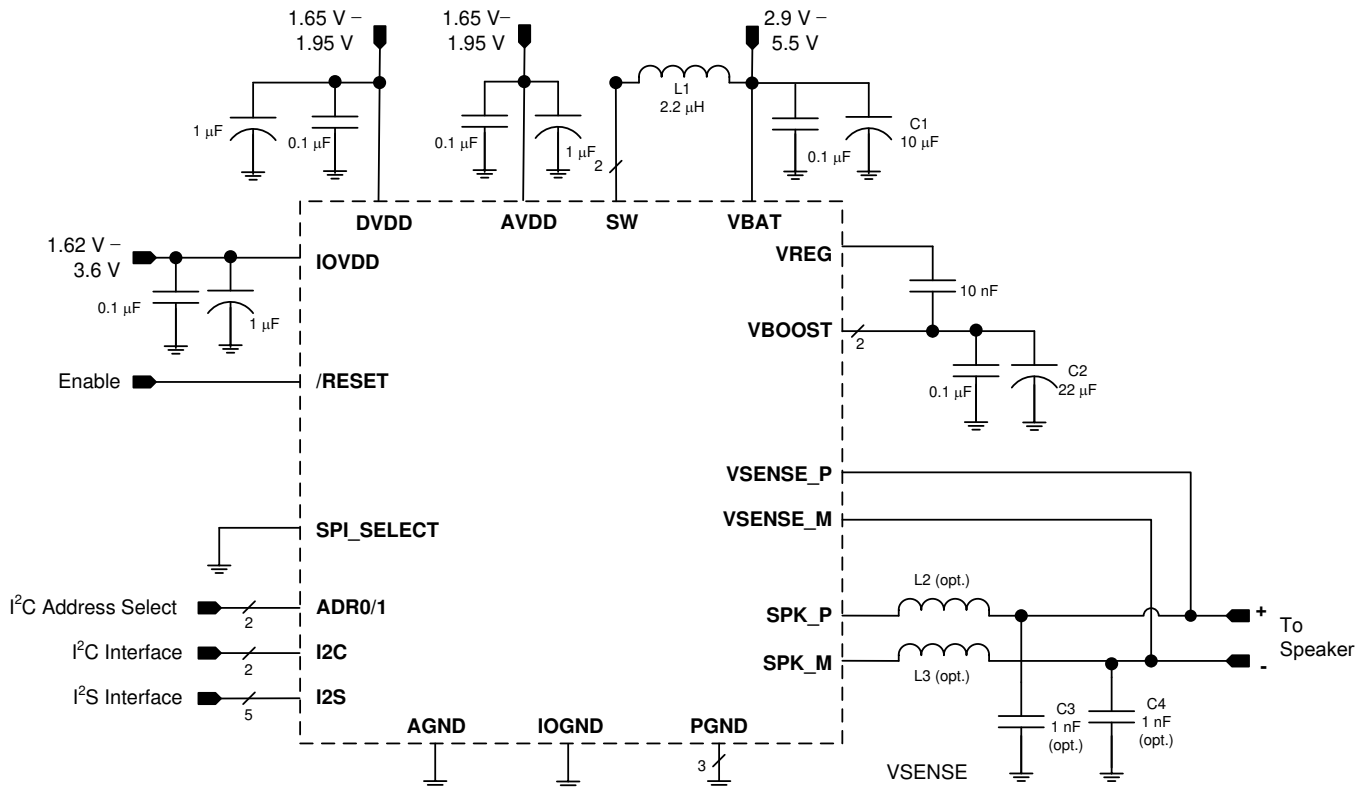

FIG 38. Typical Application - Digital Audio Input
The boost converter requires three passive devices that are labeled L1, C1 and C2 in Figure 38 and whose specifications are provided in 表 4. These specifications are based on the design of the TAS2555 and are necessary to meet the performance targets of the device. In particular, L1 should not be allowed to enter in the current saturation region. The saturation current for L1 should be > I_{LIM} to deliver Class-D peak power.
The TAS2555 device supports edge-rate control to minimize EMI, but the system designer may want to include passive devices on the Class-D output devices. These passive devices that are labeled L2, L3, C3 and C4 in Figure 38 and their recommended specifications are provided in 表 4. If C3 and C4 are used, they must be placed after L2 and L3 respectively to maintain the stability of the output stage.
- Use supply decoupling capacitors as shown in Figure 38 and described in Power Supply Recommendations.